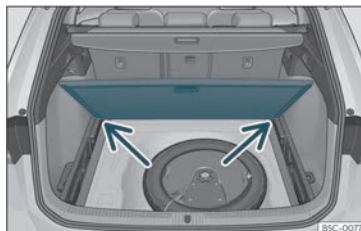

Fig. 114 Variable luggage compartment floor: inclined position.
- Rest the floor on its housings »» Fig. 114 (arrows).